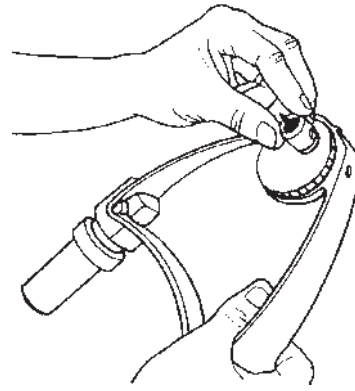

Figure B-115
87. Mount the cup center into the tailstock's adjustable center, as seen in Figure B-115, then mount the tailstock into the base mount (right side). Tighten the mount lock.